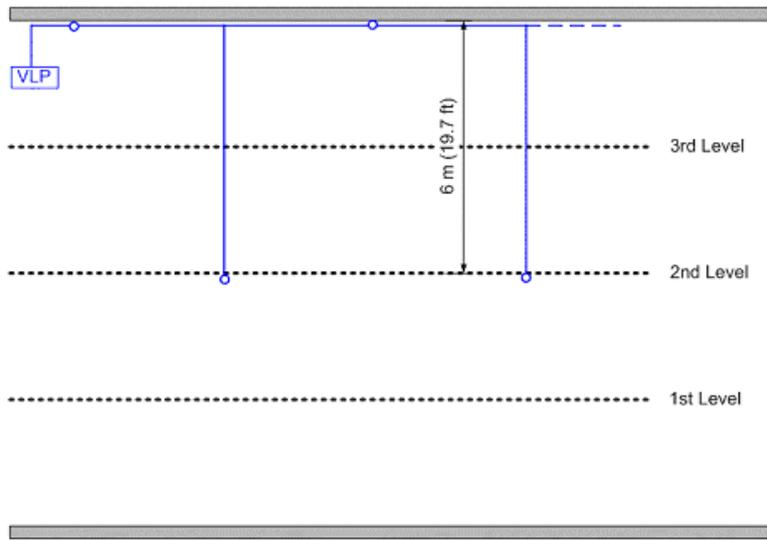

Figure 9: The VESDA detector and sampling pipe network locations in the above warehouse after expansion.
4. On completion of the warehouse expansion, insert the longer pipe lengths in place of the shorter ones. Ensure that the sampling hole size is correct. The VESDA detector should now be mounted as close to the ceiling level as possible as shown (Figure 9).